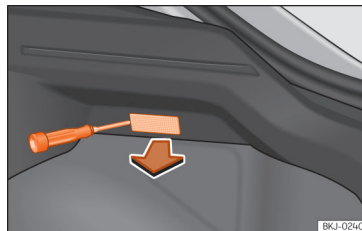

Fig. 113 Boot light.
- Extract the bulb by pressing on its inside edge using the flat side of a screwdriver >>> **Fig. 113**.